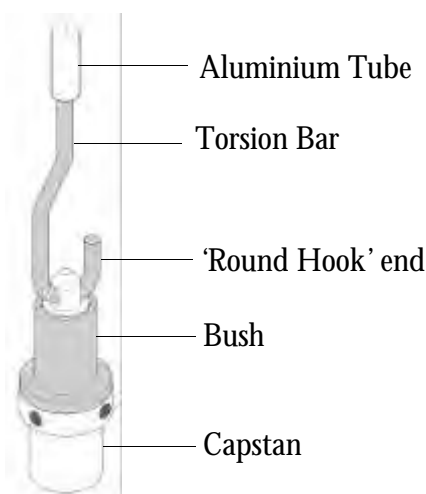

Figure 16: Torsion Bar
6. Thread the capstan, complete with the bush, over the 'round hook' end of the new torsion bar (see figure 16 below).